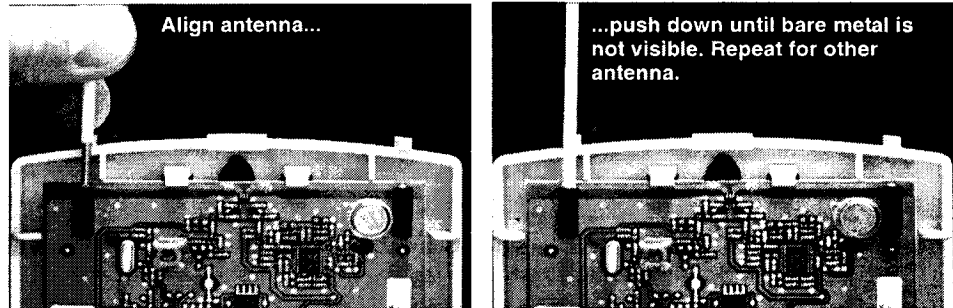

Figure 1. Antenna Installation
1. Remove the DTIM cover and install the antennas (see Figure 1).